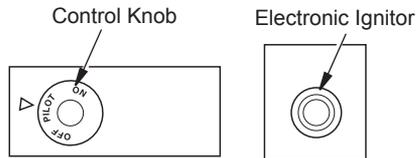

Figure 39 - Control Knob and Ignitor Button Location (Shown as Supplied - No Control Options)
3. Press in and turn control knob clockwise ↻ to the OFF position (see Figure 39).
4. Wait five (5) minutes to clear out any gas. Then smell for gas, including near the floor. If you smell gas, STOP! Follow "B" in the safety information, column 2, page 25. If you don't smell gas, go to the next step.
5. Press in and turn control knob counterclockwise ↻ to the PILOT position. Press in control knob for five (5) seconds (see Figure 39).